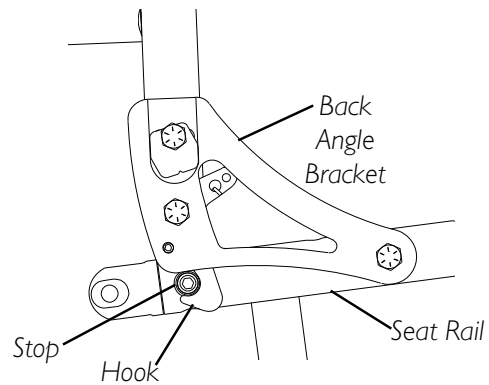

FIGURE 4 - REPLACING SEAT FRAME
5. Remove the locknut, nylon washer and screw securing each side of the REAR seat frame to the wheelchair frame as shown in DETAIL "A" of FIGURE 4.
6. Remove two (2) allen screws and washers that secure FRONT seat frame to the wheelchair front frame as shown in DETAIL "B" of FIGURE 4.
7. Remove the locknut, two (2) washers, stop and bolt from the REAR of the seat frame as shown in DETAIL "C" of FIGURE 4.
8. Remove the locknut, washer, coved spacer, nylon spacer, washer and bolt securing the FRONT of the back angle bracket to the seat frame as shown in DETAIL "C" of FIGURE 4.
11. Align FRONT of seat frame with wheelchair front frame as shown in DETAIL "B" of FIGURE 4.
12. Install two (2) allen screws and locknuts to secure FRONT of seat frame to wheelchair front frame as shown in DETAIL "B" of FIGURE 4.
14. Install the bolt, stop, two (2) washers and locknut onto the rear of the seat frame as shown in DETAIL "C" of FIGURE 4.
16. Align the latches on the back angle brackets with the stops installed in STEP 14 as shown in DETAIL "D" of FIGURE 4.
17. Secure the FRONT of the back angle brackets to the seat frame with the bolts, washers, nylon spacers, coved spacers, washers and locknuts as shown in DETAIL "C" of FIGURE 4.